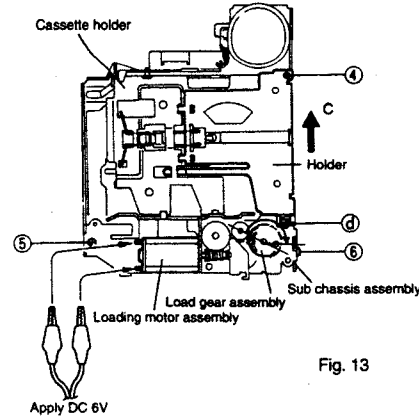

Fig. 13
3. Apply DC 6 V to the lead wire of the loading motor assembly and turn the load gear assembly to the position shown in Fig. 13.
4. Remove the one screw ④ securing the cassette holder and holder arm assembly. (Fig. 13)
5. Shift the cassette holder and the holder arm assembly in the direction shown by the arrow C and remove them from the interlocking section ④ of the sub chassis assembly. (Fig. 13)
4. Remove the two screws ⑤ and ⑥ securing the sub chassis assembly. (Fig. 13)